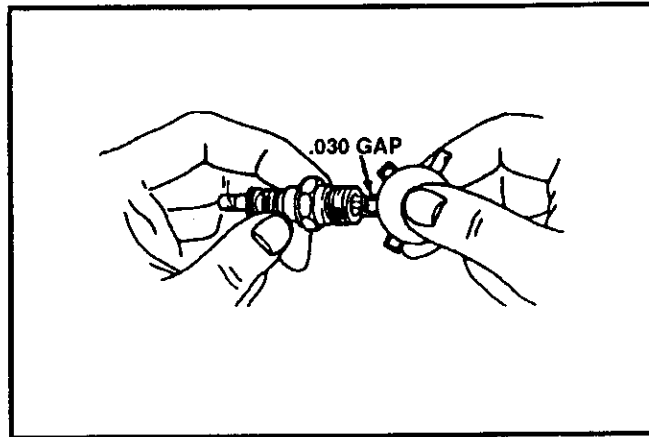

FIG. 18
- Be sure the spark plug is clean and free of foreign material. Check electrodes gap (See FIG. 18) with a wire feeler gauge and reset the gap to .030 inch if necessary.